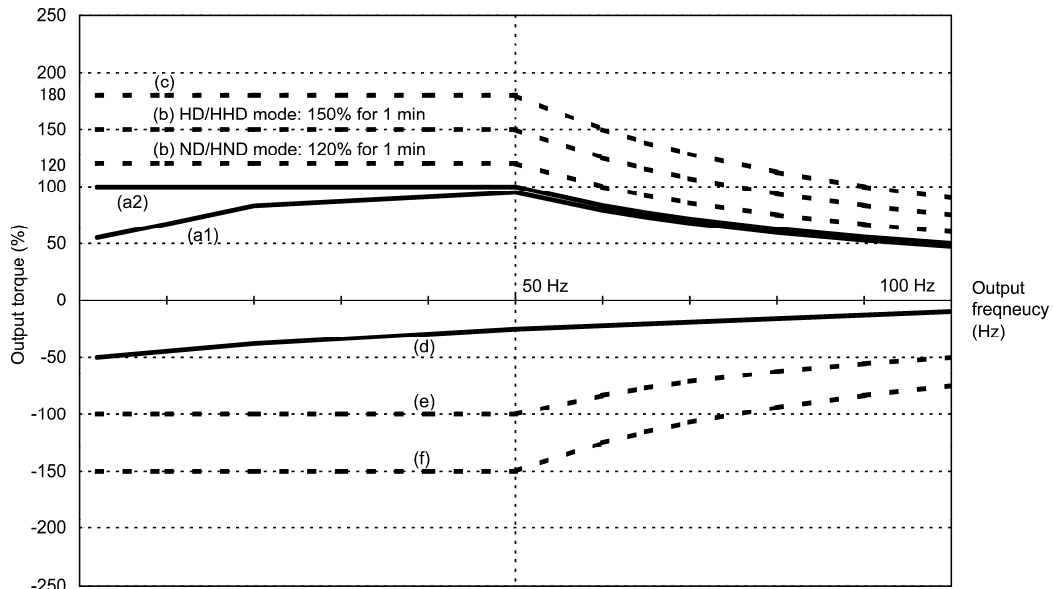

Figure 10.1-1 Output Torque Characteristics (Base frequency: 50 Hz)
Figures 10.1-1 and 10.1-2 graph the output torque characteristics of motors at the rated output frequency individually for 50 Hz and 60 Hz base. The horizontal and vertical axes show the output frequency and output torque (%), respectively. Curves (a) through (f) depend on the running conditions.
(1) Continuous allowable driving torque
① Standard motor (Curve (a1) in Figures 10.1-1 and 10.1-2)
② Motor exclusively designed for vector control (Curve (a2) in Figures 10.1-1 and 10.1-2)
(2) Maximum driving torque in a short time (Curves (b) and (c) in Figures 10.1-1 and 10.1-2)
(3) Starting torque (around the output frequency 0 Hz in Figures 10.1-1 and 10.1-2)
(4) Braking torque (Curves (d), (e), and (f) in Figures 10.1-1 and 10.1-2)